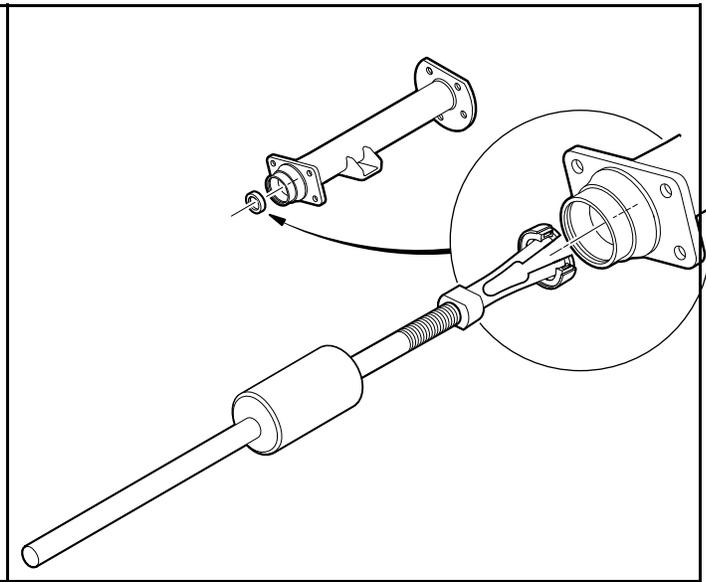

Figure 28-2 Axle Seal and Adapter Ring Removal
- 6.1. Use a bearing puller (CCI P/N 1016417) to remove the axle seal and adapter ring from the axle tube (**Figure 28-2, Page 28-2**). **See following CAUTION and NOTE.**